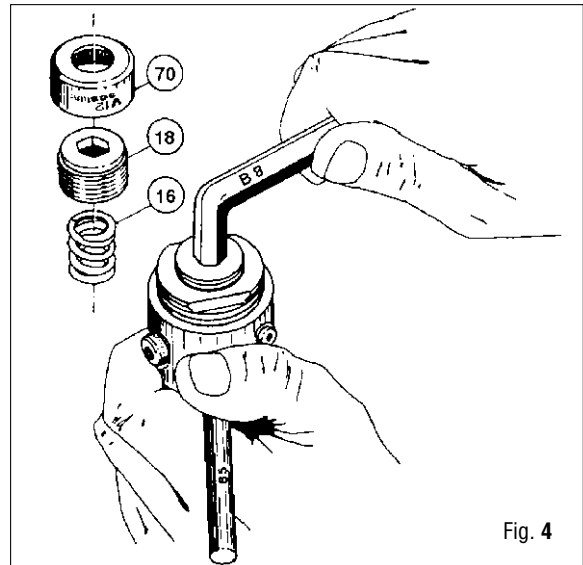

Fig. 4
7. Remove regulating nut cover (70).
8. With the setscrew wrench (B-13), unscrew regulating nut (18) and remove spring (16). (Fig. 4)